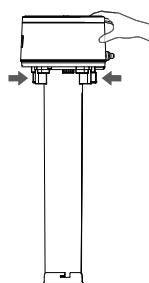
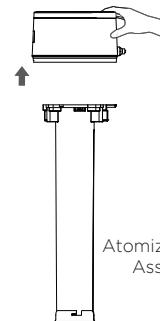

Fig 2
Fig 3
2. Hold the main unit with one hand, press the spring switch of the mist guiding tube with the other hand at the same time as shown in **Fig 2**, and remove the main unit in **Fig 3**.